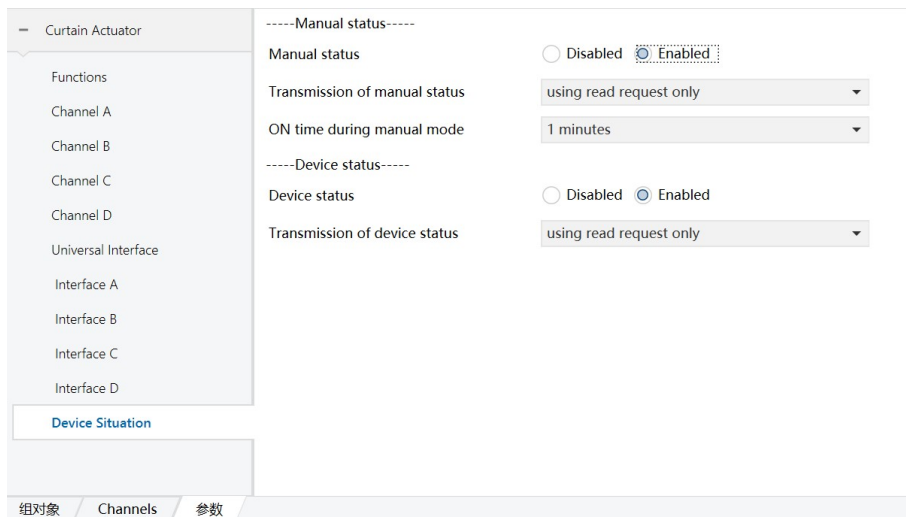

Figure 6.3.1
1) Click "Device Situation" , parameter in Figure 6.3.1 will show: